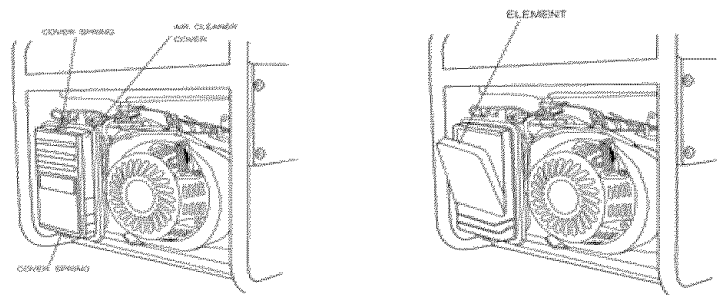

Figure 15- Removing the air cleaner casing.
1. Unhinge the clasps at the top and bottom of the air cleaner cover (see figure 15).